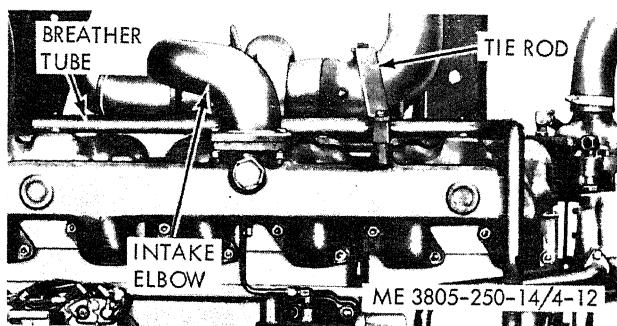

Figure 4-12. Intake manifold, removal and installation.
(1) Remove four nuts, bolts, and lockwashers securing the intake elbow to the manifold (fig. 4-12).
(2) Remove two bolts which secure the tie rod to the manifold.
(3) Disconnect the engine breather tube.
(4) Remove twelve nuts and lockwashers securing the manifold to the engine. Remove the manifold and discard the mounting gasket.